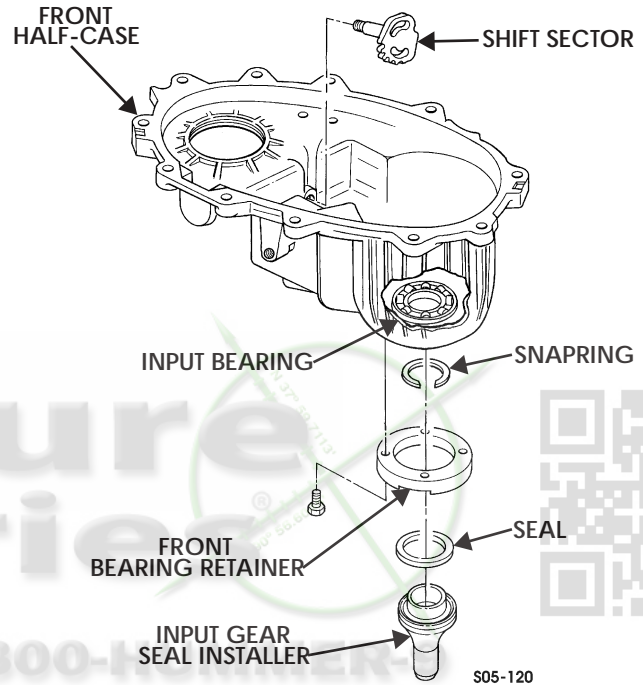

Figure 5-173: Front Seal
3. Install snapping in front groove of input gear shaft (Figure 5-173).